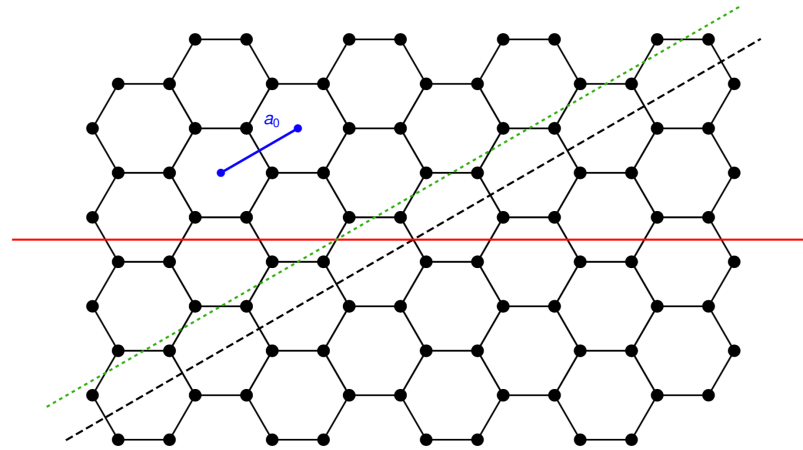

Figure 5 The cutting directions considered for the graphene lattice and the unit length a_0 .
- b) Now suppose to cut the lattice along the direction indicated by the continuous red line (see Fig. 5). How is the “line energy” energy associated with this cut similar to a surface energy? Determine the energy per unit length created due to this cut, assuming the energy per bond to be ϵ .